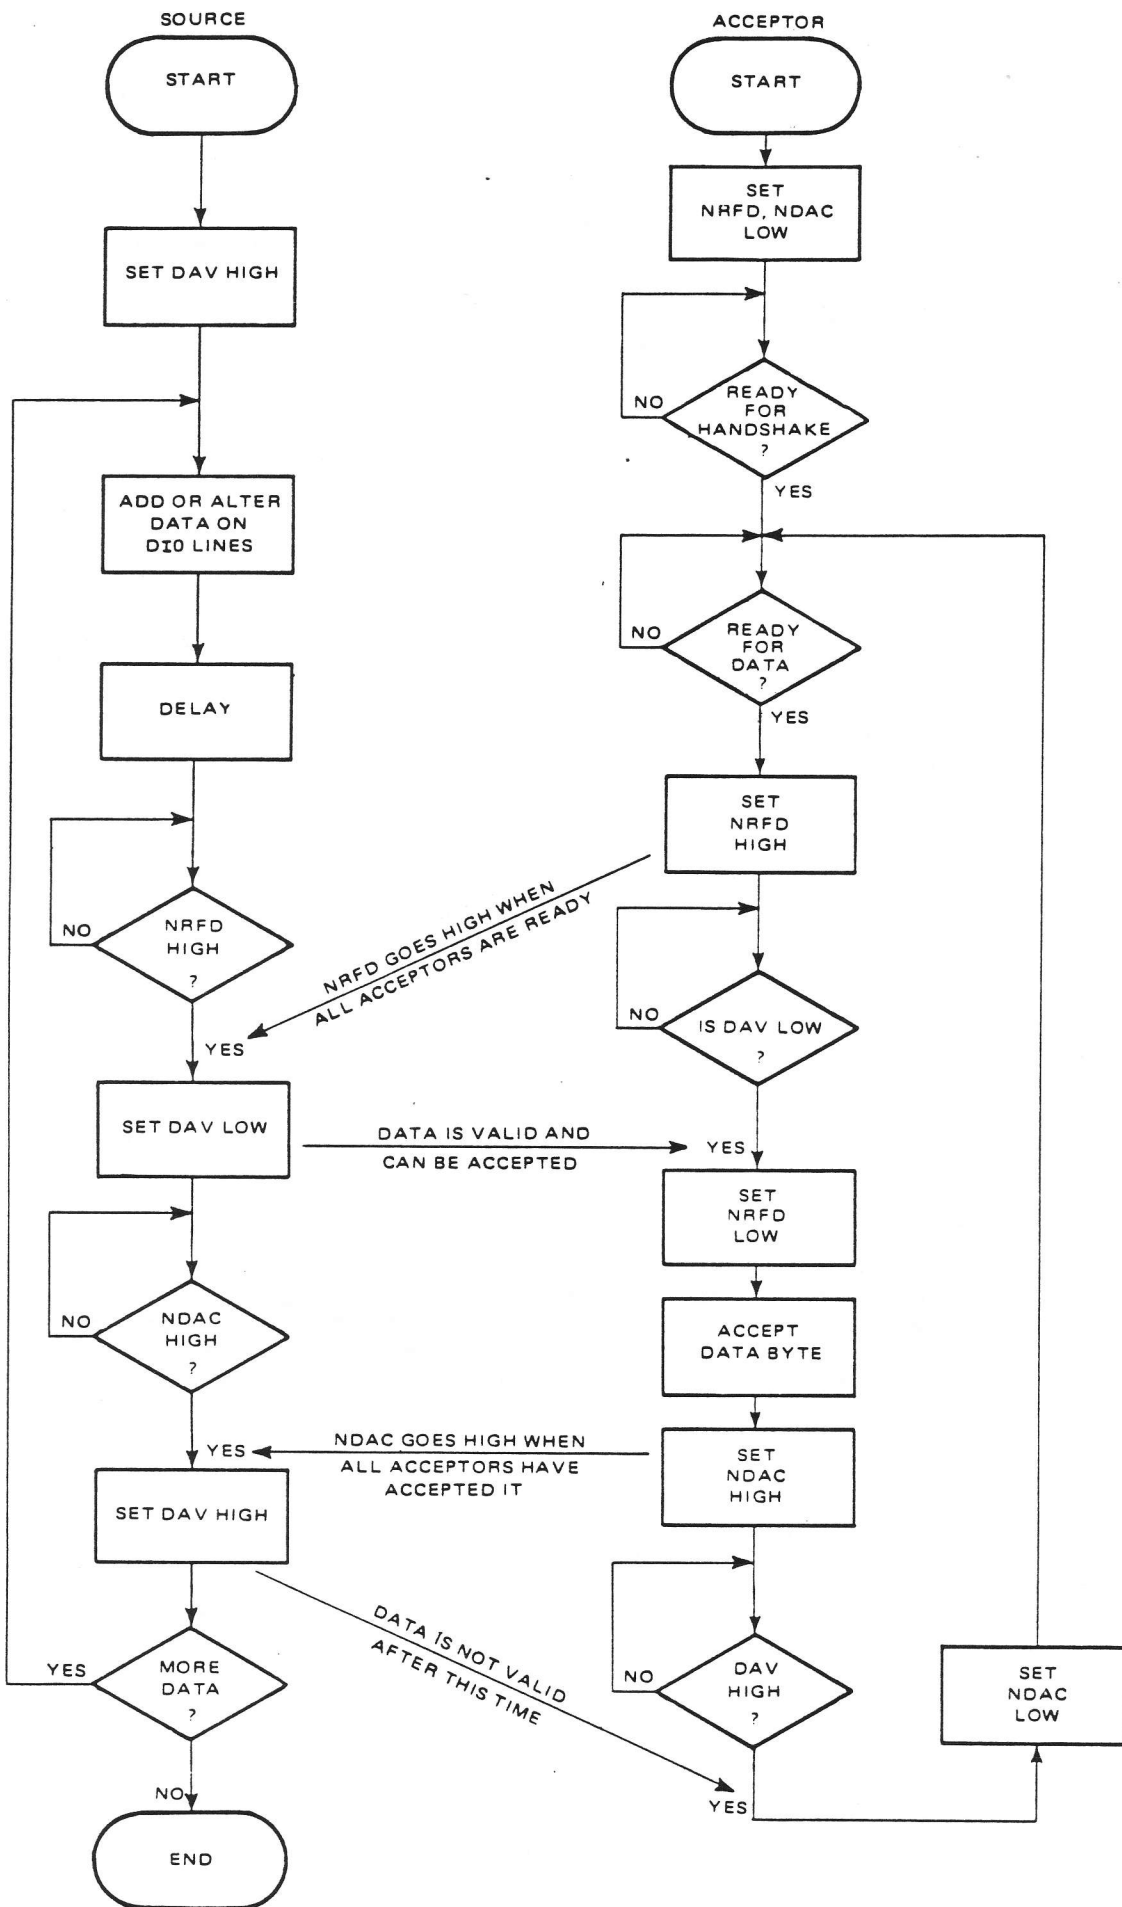
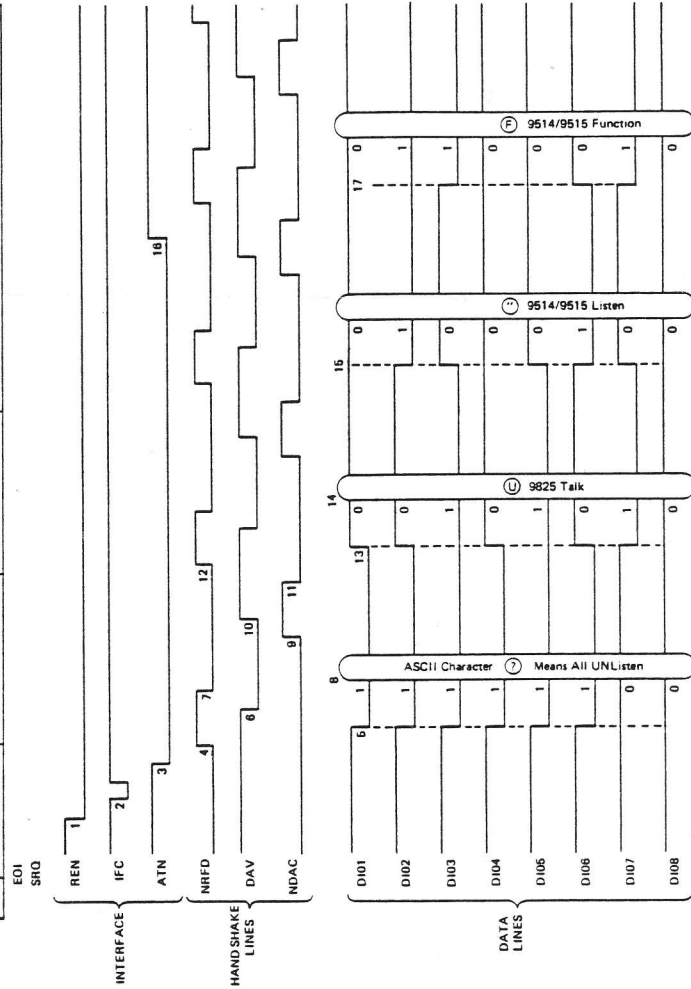

Figure 3.6 - Handshake Flow Chart
Figure 3.7 - Handshake Timing
3.3.4.2 Shown in Figure 3.7 is the sequential relationship between the DAV, NRFD, and NDAC lines, used to transfer data bytes. Figure 3.6 illustrates the handshake flow chart.
3.3.6.1 The transmission of programming instructions to the instrument and the subsequent transmission of measurement data to the controller is accomplished by transmitting programming instructions as outlined in the bus operation sequence in Table 3.28. Table 3.28 and the accompanying timing chart (Figure 3.7) illustrates the sequence of the transmission of device dependent messages to the counter to cause it to measure the frequency of a measurement signal applied to channel A and transmit the resultant measurement data to the controller by the interface bus.